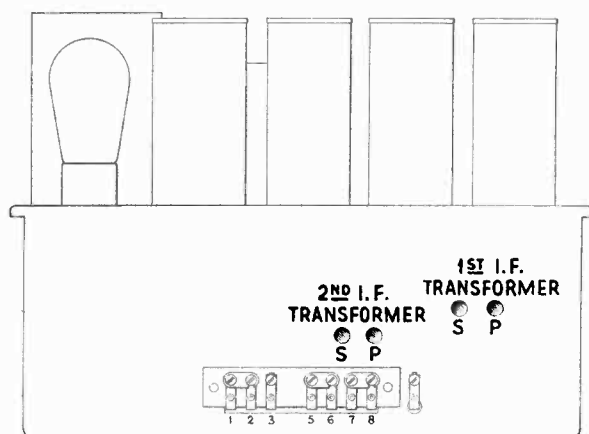

Figure 7—Location of I. F. Tuning Capacitors
- (e) Refer to Figure 7. Adjust the secondary and primary of the second and then the first I. F. transformer until a maximum deflection is obtained in the output meter. Go through these adjustments a second time, as a slight readjustment may be necessary.